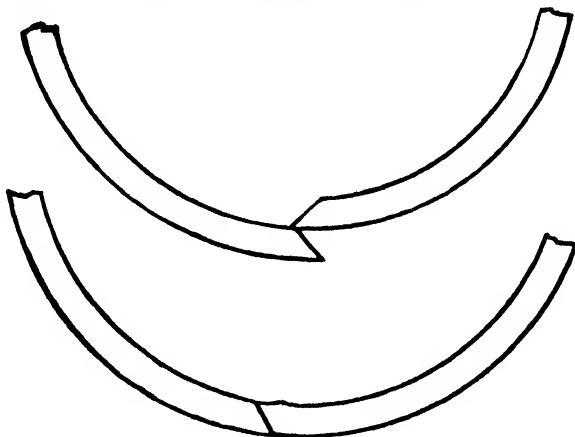

FIG. 73
14. Flux the ends while red hot, and spring the tire until the end that is highest can be pushed under the one that is lowest. Lap the ends slightly more than the length of the bevel and hammer on the heel of the top bevel until the tire is in line and the ends fit together. Fig. 73.